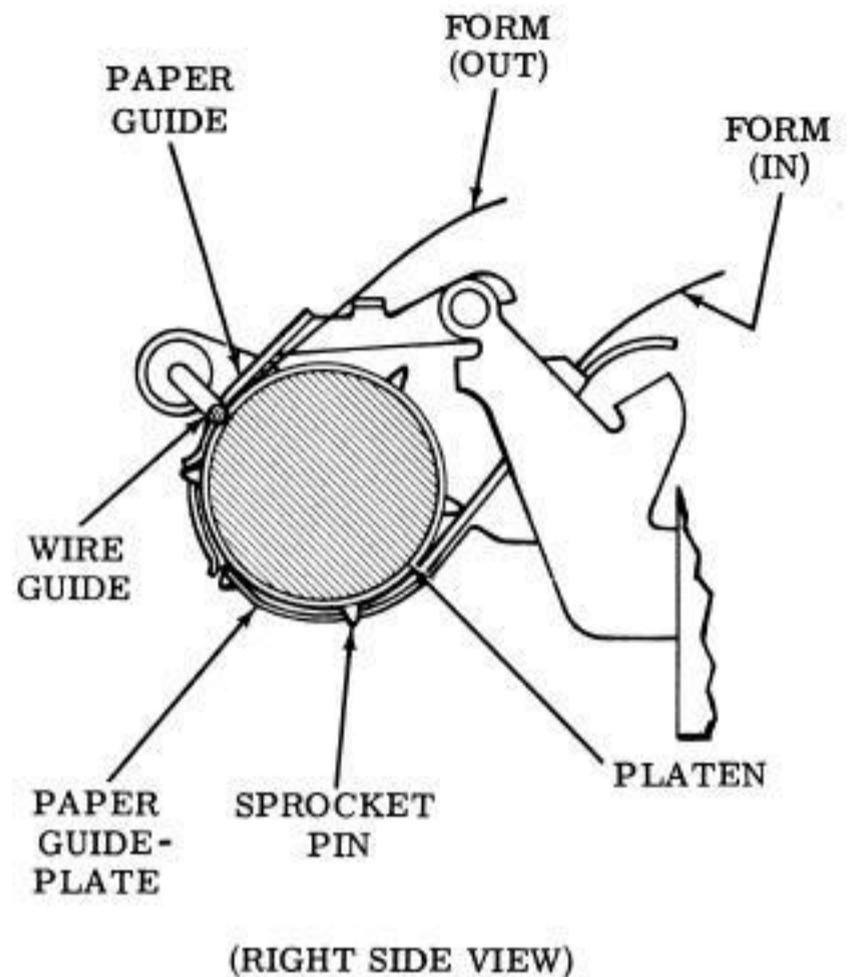

Figure 7 - Form Threading — Sprocket Feed
- 3.18 Figure 7 illustrates form threading for a sprocket feed typing unit.